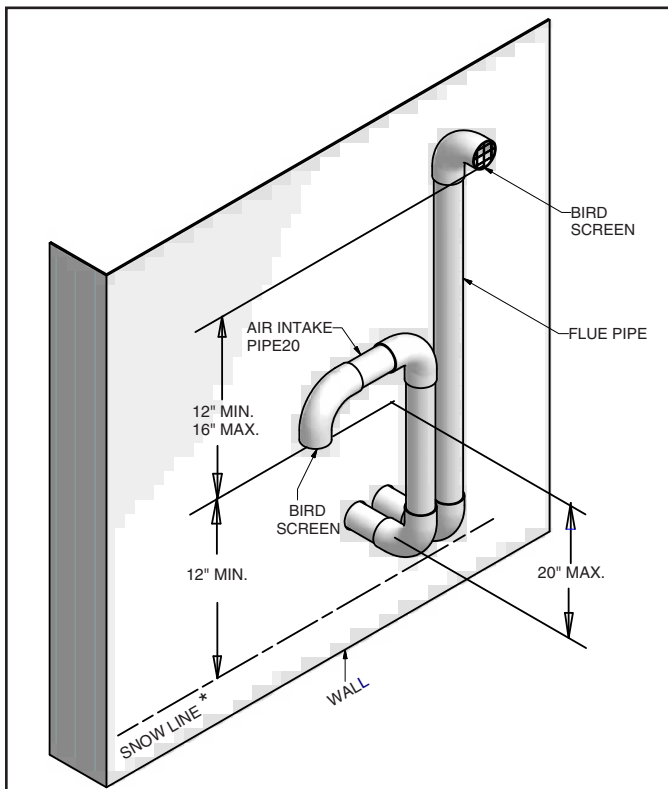

Figure 11a. Sidewall venting and air intake piping (snorkel style)
**Alternate sidewall venting for direct or non-direct vent:** Vent and/or air intake piping may be installed per figure 11a in order to provide enough clearance from snow line. The total vent/air intake equivalent length must not exceed 100 ft.